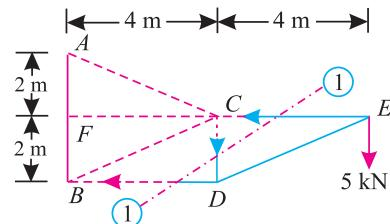

Fig. 13.34.
**Solution.** The example may be solved either by the method of joints or method of sections. But we shall solve it by the method of sections, as one section line can cut the members *CE*, *CD* and *BD* in which the forces are required to be found out. Now let us pass section (1-1) cutting truss into two parts as shown in Fig. 13.34.
Now consider equilibrium of the right parts of the truss. Let the directions of the force  $P_{CE}$ ,  $P_{CD}$  and  $P_{BD}$  be assumed as shown in Fig. 13.34. Taking moments about the joint D and equating the same,